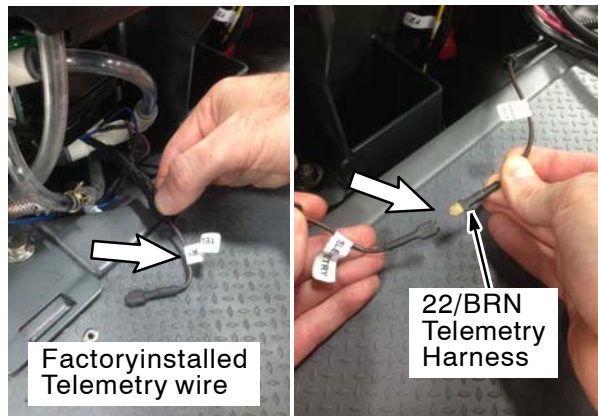

Fig. 14
19. **Machines equipped with ec-H2O NanoClean system:** Locate the factory installed brown wire labeled “Telemetry” coming from the ec-H2O module harness. Connect the telemetry harness (16) wire 22/BRN into the factory installed wire. (Fig. 14)